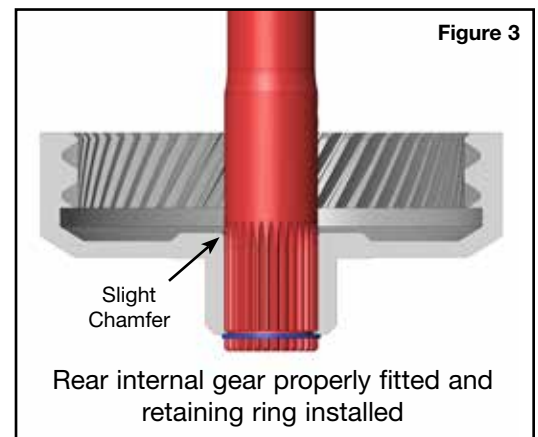

Figure 3
- Begin the fitting process by installing Sonnax extreme duty main shaft into the rear internal gear. With the rear internal gear properly supported, lightly press (or carefully tap with soft faced hammer) the shaft into the rear internal gear while checking the position of the retaining ring groove. Typically it will be necessary to machine/grind a slight chamfer at the front edge of the rear internal gear internal spline (**Figure 3**).